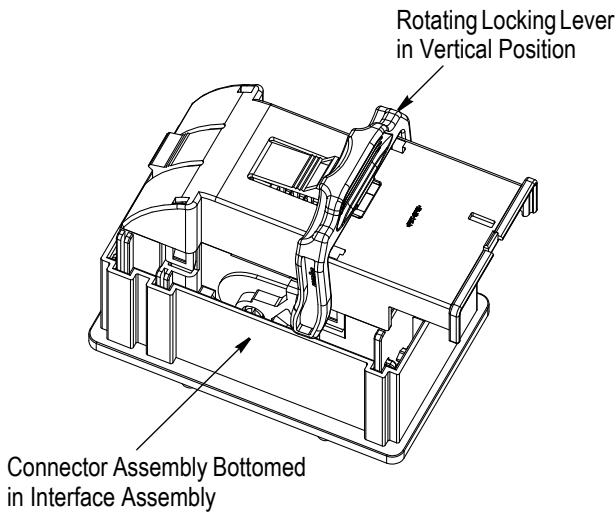

Figure 3
3. Insert the connector assembly into the interface assembly until it bottoms. There will be tactile feed-back and an audible click. The connector assembly is now in the pre-lock position. See Figure 3.